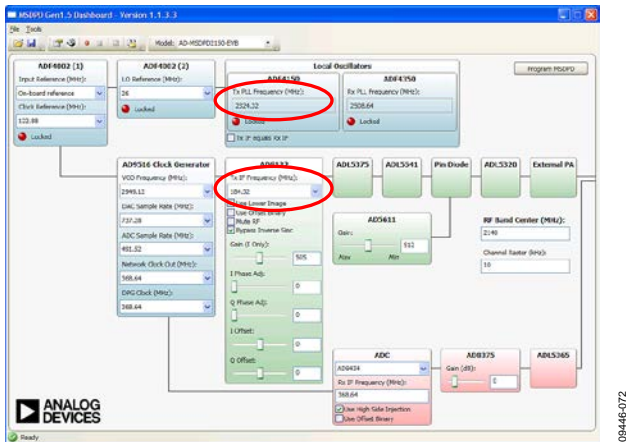

Figure 72. Controls Used to Choose SA Settings and Correct for Image + LO
1. Connect the Tx output to a spectrum analyzer (SA) to monitor the single sideband spectrum. Set the center frequency on the spectrum analyzer to the Tx PLL frequency. Set the span to  $>2 \times$  Tx IF frequency. See Figure 72.